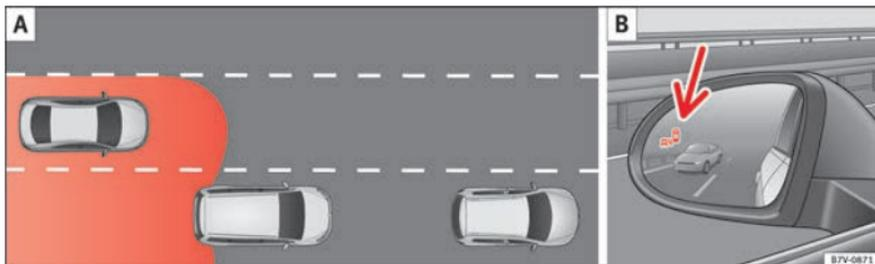

Fig. 222 Schematic diagram: **A** Passing situation with traffic behind the vehicle. **B** Indication from the blind spot detector in the left-hand external mirror.
In the following situations, an indication will be displayed in the external mirror »» **Fig. 222 B** (arrow) or »» **Fig. 223 B** (arrow):
- When being passed by another vehicle »» **Fig. 222 A**.